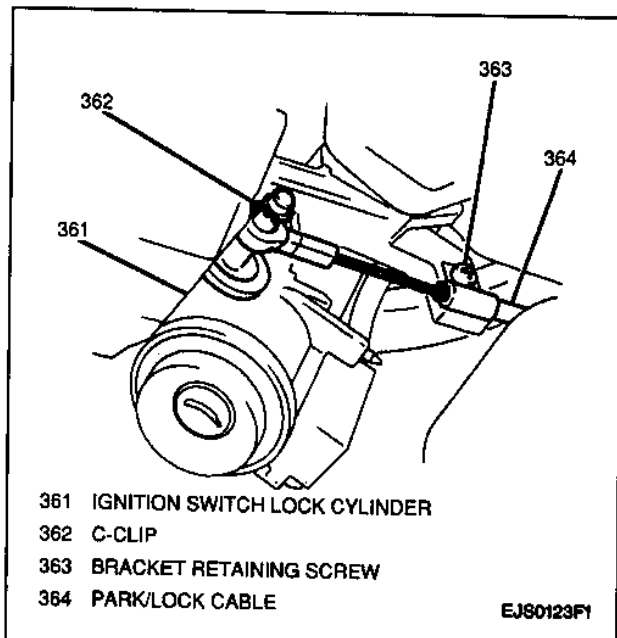

Figure 16—Park Lock Cable
7. Park lock cable from ignition switch by removing one bracket retaining screw and C-clip at the ignition switch lock cylinder (automatic transmission equipped models, Figure 16).
3. Park lock cable to ignition switch; secure with one bracket retaining screw and C-clip at the ignition switch lock cylinder (automatic transmission equipped vehicles, Figure 16).